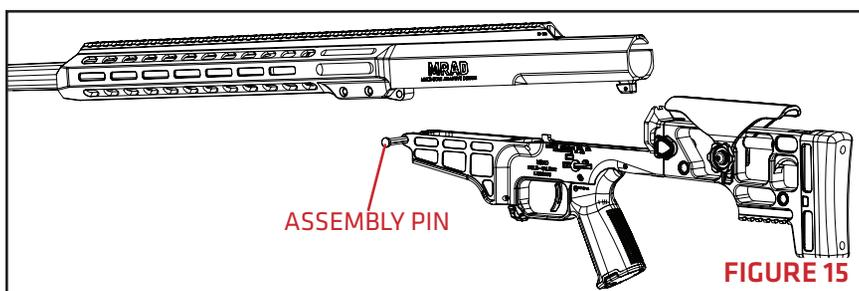

FIGURE 15
- Push the assembly pin to the left to separate the receivers. The pin is captured in the lower receiver. DO NOT attempt to remove the pin from the receiver (FIGURE 15).